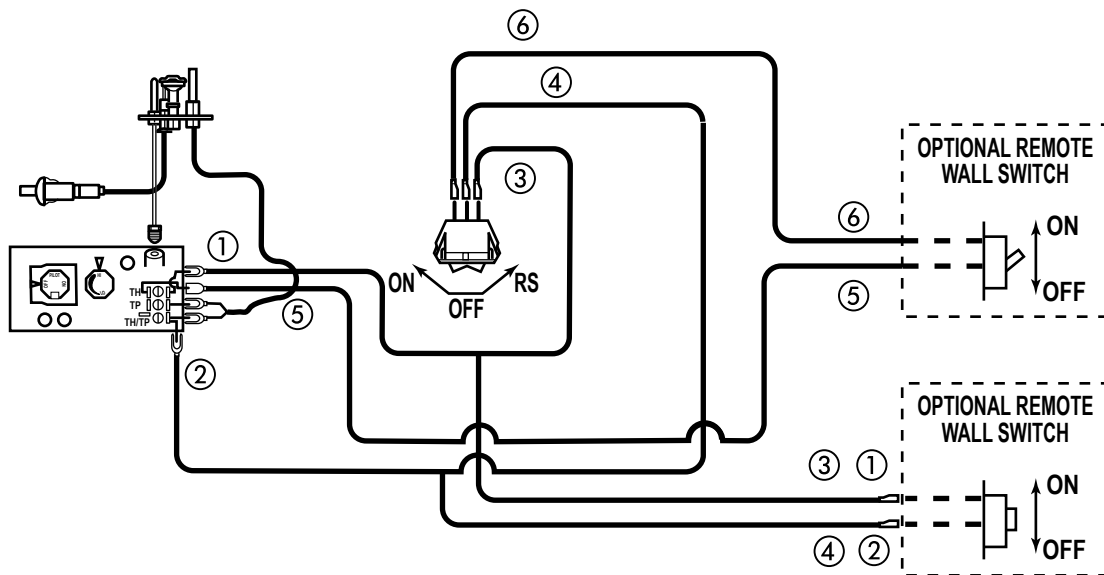

Figure 31 -
A remote wall switch and up to fifteen (15) feet of 18 Ga. wire may be used with this appliance. Attach the wall switch in a junction box at the desired location on the wall. *Figure 31.* Do not extend beyond the wall switch wire length provided.